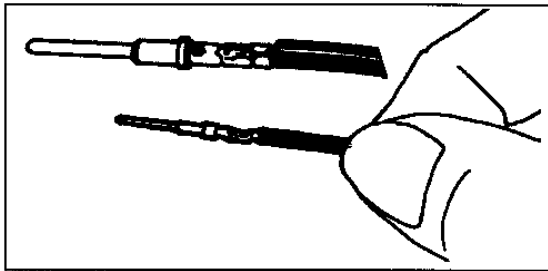

Figure 40 Grasp Wire About 1 Inch Behind Terminal Barrel
1. Grasp wire about 1 inch (25 mm) behind terminal barrel (Figure 40).